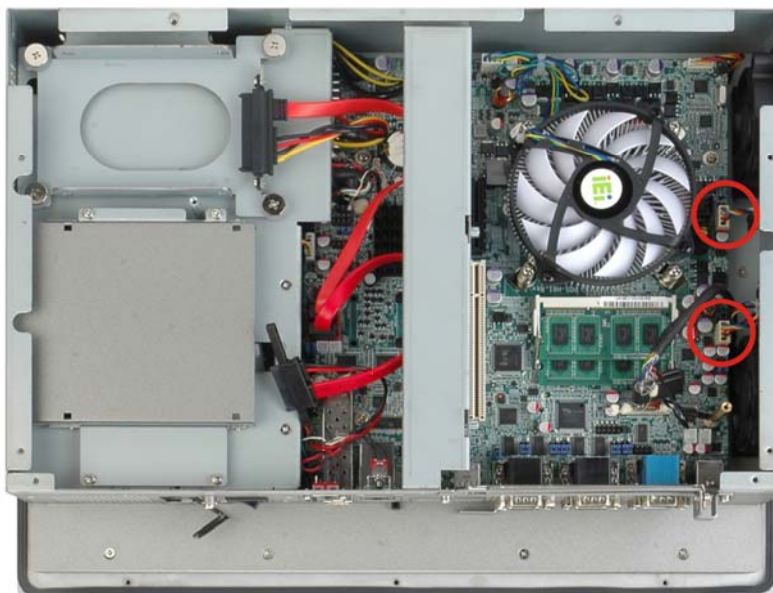

Figure 4-10: System Cooling Fans Motherboard Connector
- Step 2:** Disconnect the system cooling fans from the motherboard (**Figure 4-10**).